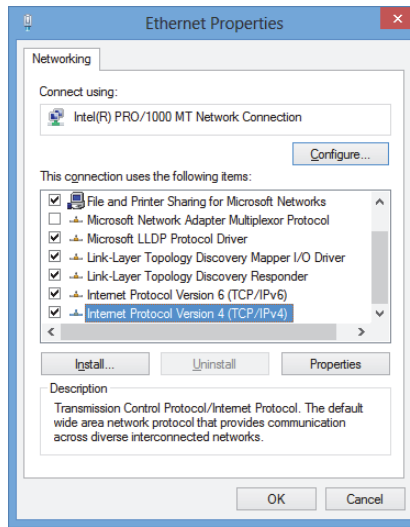

Figure 3-16 The Ethernet Properties dialog box on the local computer (Windows 8 example)
- a) If you are using Windows 8: on the taskbar, click **Settings > Control Panel > Network and Sharing Center**, and then click the connection used to establish the link with the remote FocusPC. In the **[Connection Name] Status** dialog box that appears, click **Properties**. In the **Ethernet Properties** dialog box that appears next, select **Internet Protocol Version 4 (TCP/IPv4)**, and then click **Properties** (see Figure 3-16 on page 62).